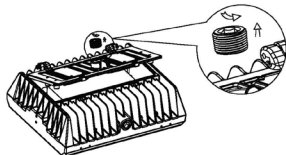

Figure 17
1. Remove the plugging screw (Figure 17).